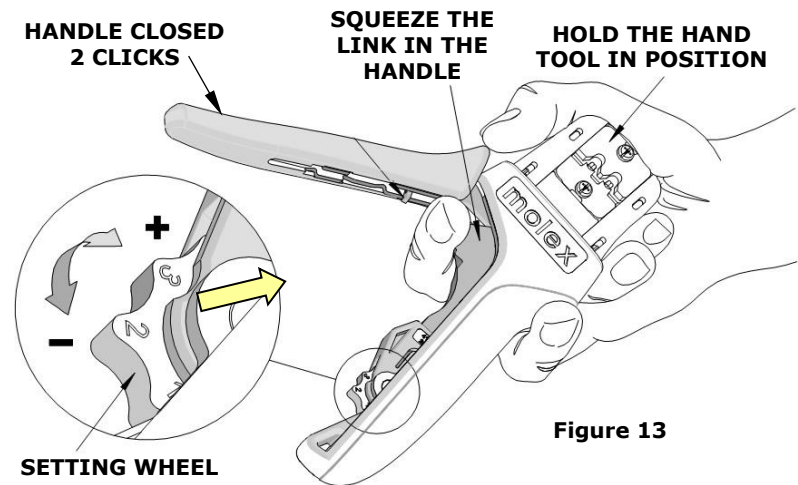

Figure 13
### How to Adjust Tool Preload (See Figure 13)
3. Hold the hand tool in the palm of your hand as shown in Figure 13. Using your index finger, squeeze the link toward the top of the hand tool frame. This will release the preload adjustment wheel.
4. Rotate the setting wheel counterclockwise (CCW) to increase handle force. The numbers will display higher. To decrease handle force, rotate the setting wheel clockwise (CW).